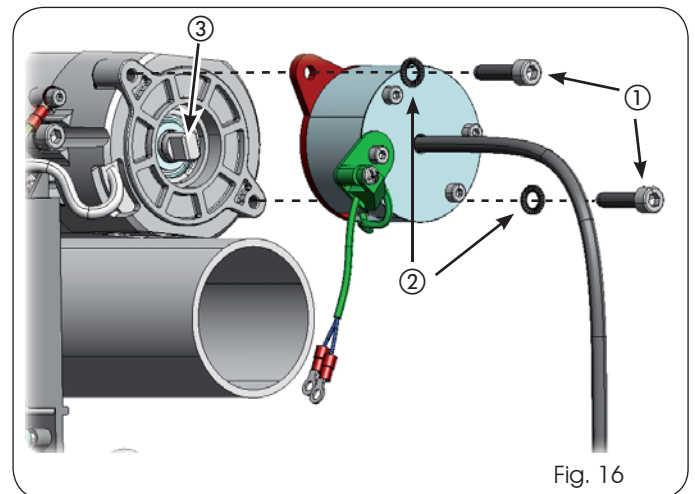

Fig. 16
3. Assemble the electro-brake in Figure 16 on the cover of the electric motor with screws ref. ① and washers ref. ②, mating the motor shaft ref. ③ with the electro-brake block;